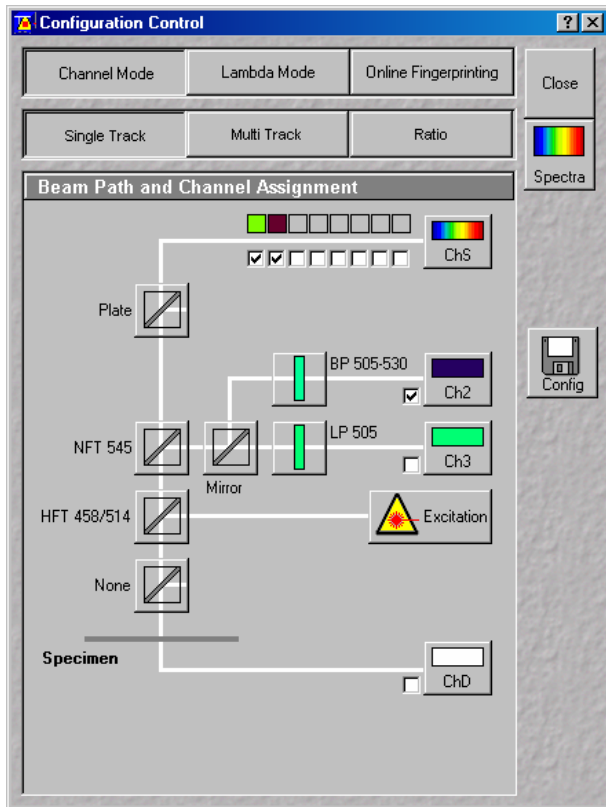

Fig. 12 Configuration Control window for Single Track
- Click on the **Config** button in the **Acquire** subordinate toolbar to open the **Configuration Control** window (Fig. 12).
- Select **Channel Mode** (Fig. 12).
- Click on the **Single Track** button in the **Configuration Control** window (Fig. 12).